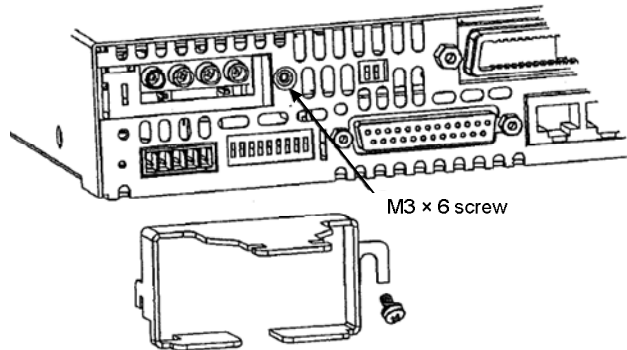

Fig.2-5: Shield assembly
4. Loosen the chassis screw marked "A" halfway as shown in Fig.2-5.